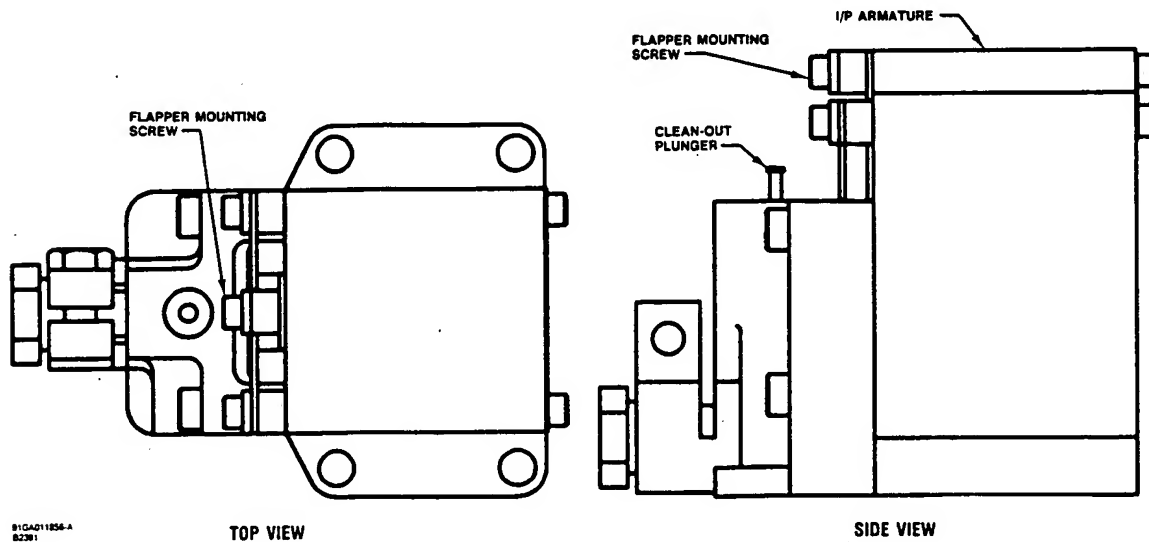

Figure 16. I/P Converter
If the primary orifice becomes clogged, affecting performance, depress the cleanout plunger (see figure 16). This operation runs a wire through the orifice to clear the hole. Unscrew the single captive screw (key 43D) in the cover (key 43) and remove the cover from the digital valve controller to gain access to the cleanout plunger.
Refer to figure 16.